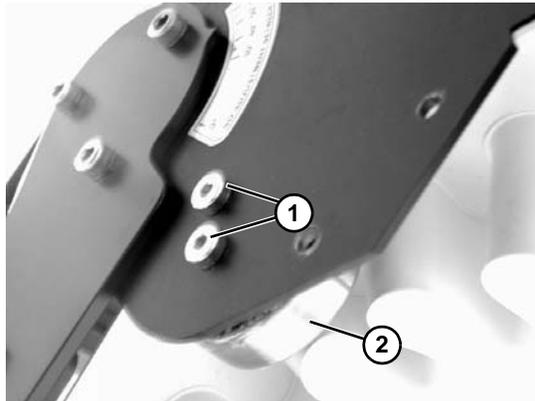

Figure 26
- Remove screws (**Figure 26, item 1**) and remove roller bearing (**Figure 26, item 2**).